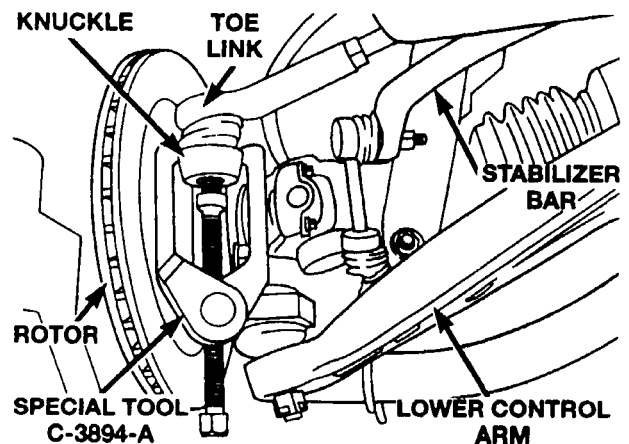

Figure 32 – Left Side Shown
2. Remove the right and left toe link from the knuckles using puller, Special Tool C-3894-A (Figure 32).